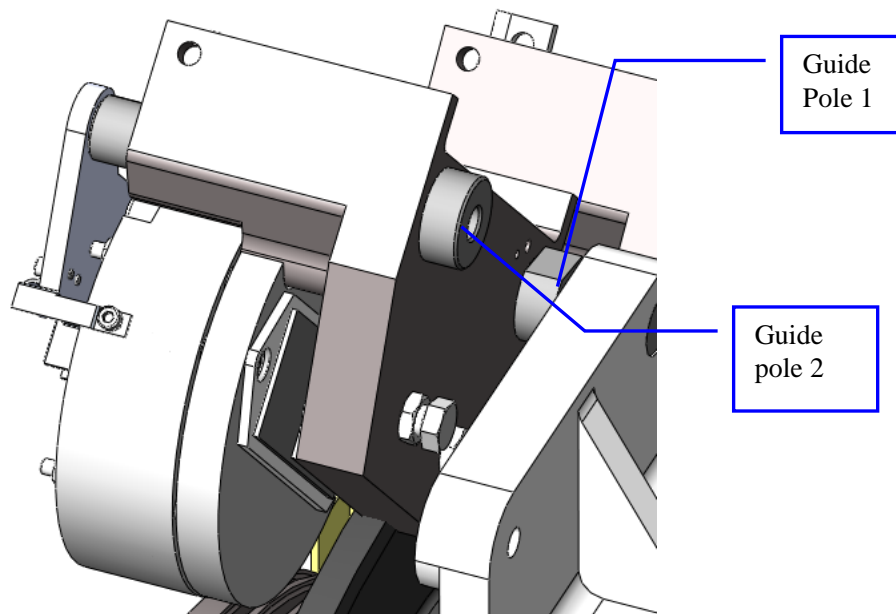

Figure 34: Install brake on guide pole 1
1. Clean the guide poles 1 and 2. Install guide pole 1 using the 33mm open end wrench. Also install Guide pole 2 into the brake mechanism. See Figure 34.